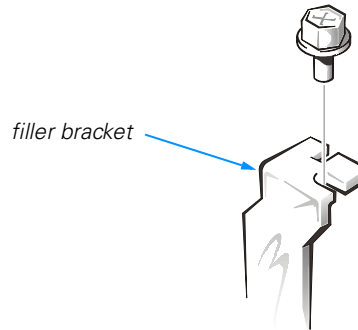

Figure 2-7. Removing the Filler Bracket
4. Unscrew and remove the metal filler bracket that covers the card-slot opening for the expansion slot you intend to use (see Figure 2-7).